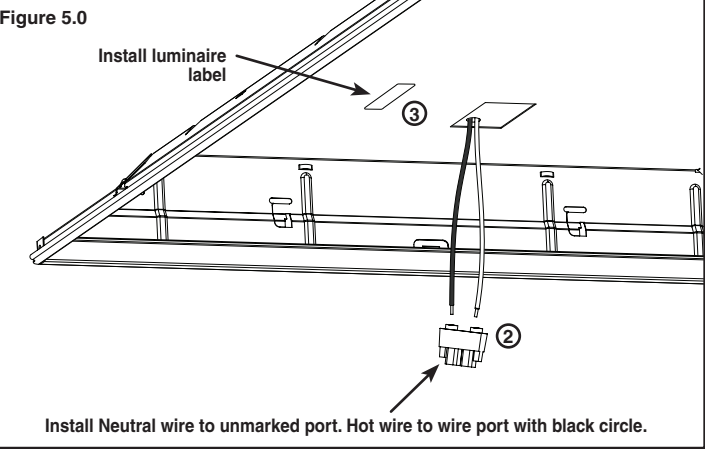

Figure 5.1
6. Using 8-18 self drilling screw (supplied) secure liner green grounding wire to luminaire (see Figure 5.1).